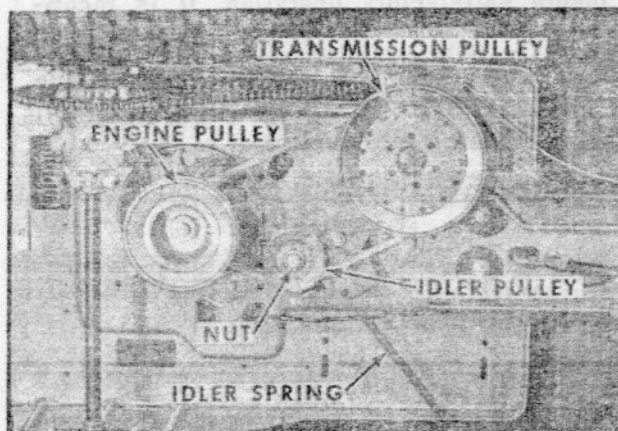

FIG. 19
2. Unhook idler spring from chassis. (See Fig. 19)
3. Remove nut from idler pulley and remove pulley. (See Fig. 19)